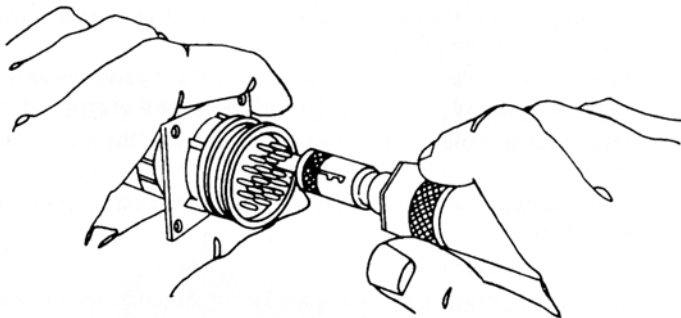

Figure 3-9. Alignment of Removal Tool
2. Place tool over the contact and insert into the cavity (see Figure 3-9). The alignment of the removal tool with the contact must be coaxial with the axis of the connector.